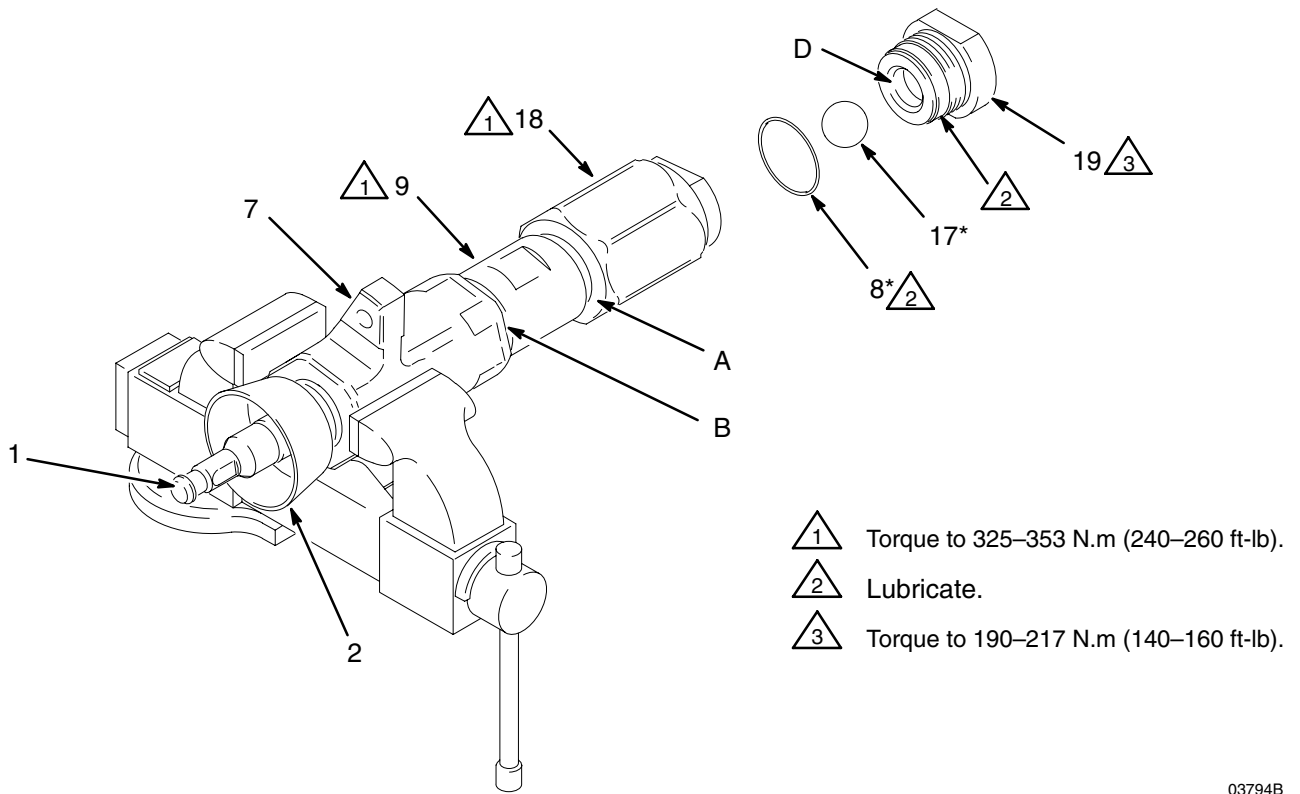

Fig. 7
1. Place the pump lengthwise in a large vise, with the jaws on either the outlet housing (7) as shown in Fig. 7 or on the cylinder (9) flats. Using the supplied wrench (110), loosen, but do not remove, the packing nut (2).
2. Apply a pipe wrench to the flats of the intake valve (19). Unscrew the intake valve (19) from the intake housing (18). Be careful to catch the intake ball (17) as you remove the intake valve, so that it does not fall and suffer damage. Remove the seal (8) from the intake valve. Inspect the ball and the seat (D) of the intake valve for wear or damage.
3. Apply a pipe wrench to the hex of the valve housing (18). The pump assembly may separate at joint A or joint B.
5. Install the packing nut (2) loosely into the outlet housing (7).
6. Lubricate the piston packings. Slide the displacement rod (1) and piston assembly down into the cylinder (9). The cylinder is symmetrical, so either end may face up. Use a rubber mallet to drive the rod into the cylinder, until the piston seat housing (16) is near the bottom of the cylinder.
7. Install the seal (8\*) on the top of the cylinder (9). Lubricate the seal and the top threads of the cylinder.
8. Place the outlet housing (7) in a vise, as shown in Fig. 7. Slide the displacement rod (1) up into the outlet housing, then screw the cylinder (9) into the outlet housing handtight. The threads will engage easily until the seal (8\*) contacts the sealing surface of the outlet housing. The top of the rod will protrude from the packing nut (2).
10. Install the seal (8\*) on the intake valve (19). Lubricate the seal and the threads of the intake valve. Place the intake ball (17\*) in the intake housing (18), then screw the intake valve into the intake housing handtight. The threads will engage easily until the seal contacts the sealing surface of the intake housing.
11. Using a pipe wrench, torque the intake housing (18) to 325–353 N.m (240–260 ft-lb). This will torque both cylinder joints (A and B). See Fig. 7.
12. Using a pipe wrench, torque the intake valve (19) to 190–217 N.m (140–150 ft-lb). See Fig. 7.
13. Torque the packing nut (2) to 136–149 N.m (100–110 ft-lb).